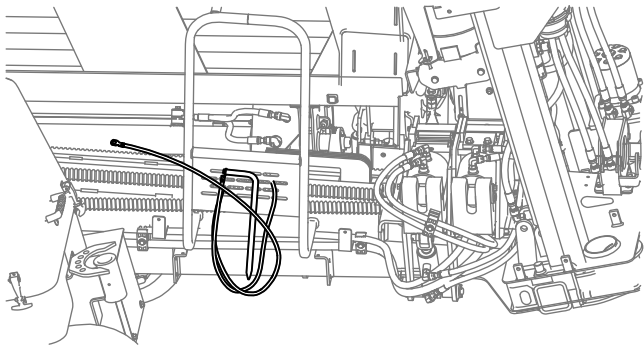

Figure 27
1. Remove the grounding stake from the holder on the side of the operator platform (Figure 27).
2. Move the drill carriage fully down the drill frame and spray the spindle threads with thread joint compound, then return the drill carriage to the upper end of the frame (Figure 27).